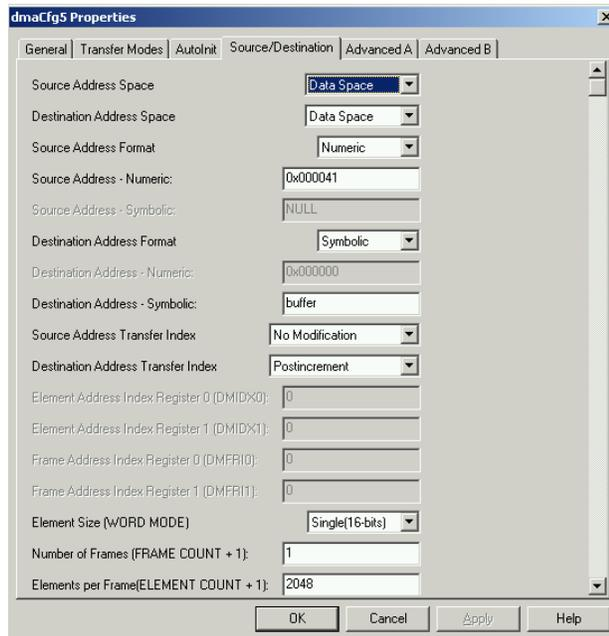

Figure 21. DMA dmaCfg5 Source/Destination Tab
- In the *Source/Destination* tab, set options as shown in Figure 21. Source is McBSP receive register located at 0x41 in data space. Destination is array called *buffer* also in dataspace.